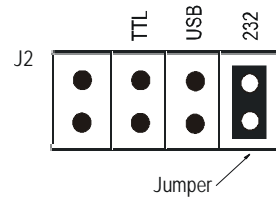

Figure 4: RS-232 jumper in factory default setting
3. Check to make sure that jumper J2 is in the correct position (Figure 4).